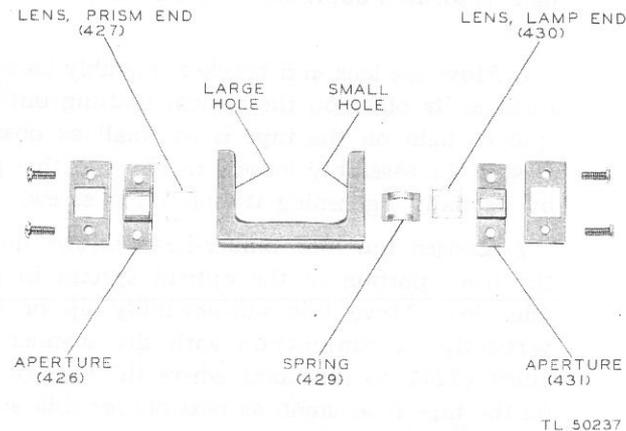

Figure 36—Lens-and-bracket assembly (disassembled)
(368) in order to replace the assembly or parts of the assembly, reassemble as follows: (See fig. 36.)
- (1) End near exciter lamp:
- b. Curved spring (429), curved portion vertical and facing outward.
- c. Thick lens (430), curved portion vertical and facing inward (against curved portion of spring).
- d. Small-hole aperture piece (431).
(2) End near hexagonal prism:
- b. Thin lens (427), curved portion horizontal and facing inward.
- c. Large-hole aperture piece (426).